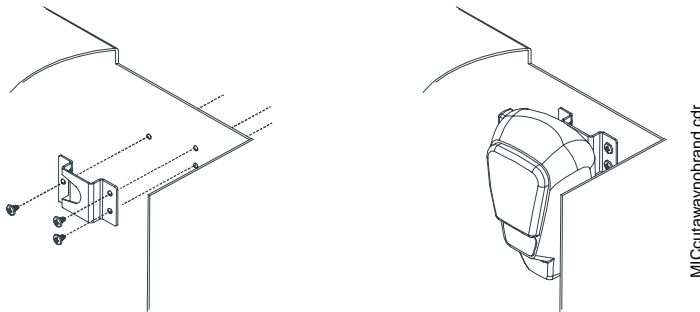

Figure 1 Installing the Microphone Bracket
1. Attach the microphone bracket to the single-well with the three self-tapping screws (P/N 38062) as shown in Figure 1.